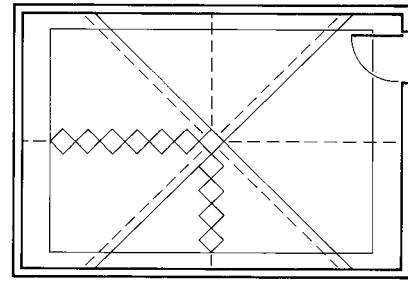

Fig. 17 - Adjusting chalk lines for a diagonal layout.
- Measure the distance between the last whole tile and the wall. If the distance in either row is less than one-fourth of the diagonal dimension of the tile, adjust the starting point and snap a new chalk line (use the dimension for the tile being installed) away from the original chalk line (Fig. 17). This will provide a balanced layout with larger cut tile around the perimeter.